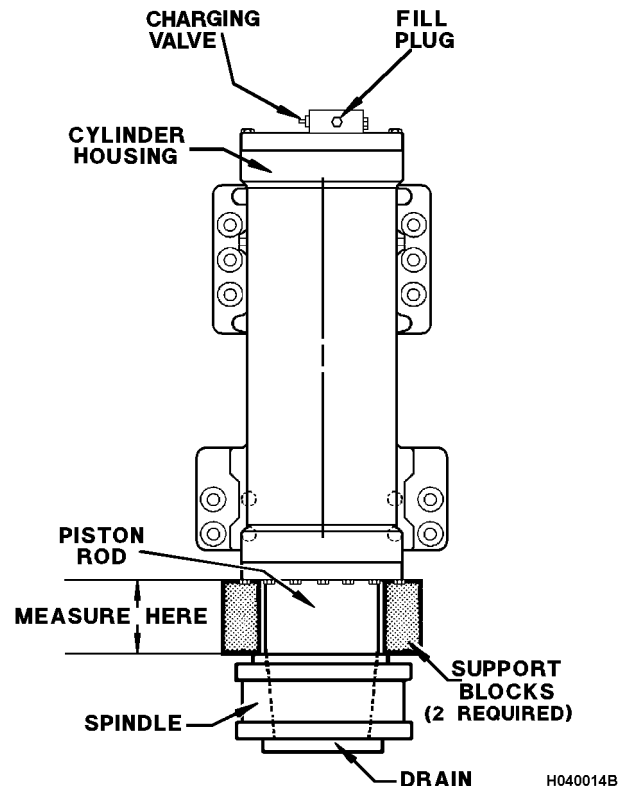

FIGURE 4-2. FRONT SUSPENSION
1. Remove spherical bearing (7, Figure 4-2) as described in "**Pivot Eye Bearing, Disassembly**".
2. If bearing carrier (13) is damaged or worn, setup an appropriate tool to press bearing carrier out of the pivot eye structure bore.
1. Setup an appropriate tool to press bearing carrier (13, Figure 4-2) into the bore of the pivot eye structure (9). Be certain the bearing carrier is pressed fully into the pivot eye bore, flush with sides. Lube groove in bearing carrier outer diameter must align with lube fitting hole in pivot eye structure.
1. Position and secure oiling height dimension blocks in place (Figure 4-2). When nitrogen pressure is released, suspensions will lower to rest on the blocks. Ensure the blocks do not mar or scratch the plated surfaces of the pistons or damage wiper seals in the lower bearing retainer. Support blocks must seat on the spindle and the cylinder housing. The blocks should be positioned 180° apart to provide stability.
3. Depress the charging valve core to release nitrogen pressure from the suspension. When all nitrogen has been vented to the atmosphere, the suspension should have collapsed slowly and be seated solidly on the support blocks. Remove top fill plug next to the charging valve (Figure 4-2).